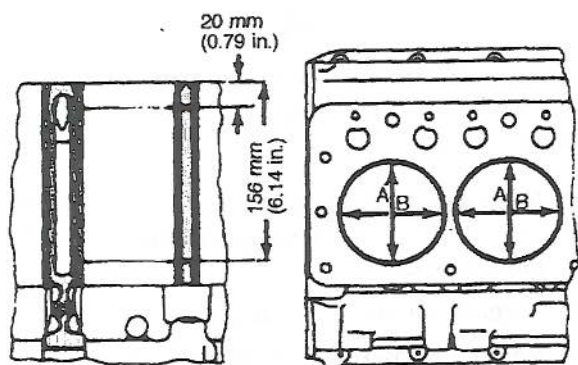

Figure 5-69. Cylinder Liner Measurement
- (1) Clean all surfaces and oil passages thoroughly.
- (2) Inspect engine block for scratches and cracks.
- (3) Check top of engine block for warp. If warp exceeds the limit specified in table 6-1, the top surface must be repaired by grinding.
- (4) Inspect cylinder liners (6) for chipping. If chipping is present, cylinder liners (6) must be replaced.
- (5) Measure bores of cylinder liners (6), as shown in figure 5-69, in direction A and B. Any liner that is worn beyond the limits specified in table 6-1, or with a vertical variation or circularity greater than that specified in the table 6-1, must be replaced.